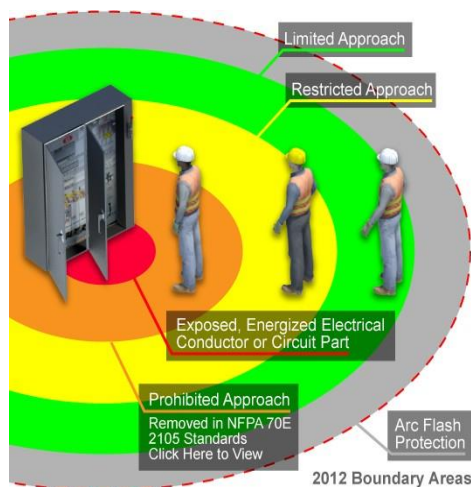

Figure 4.1 – Boundaries
6.1 General - For troubleshooting and testing purposes only, qualified persons using proper test equipment and personal protective equipment must adhere to the boundaries shown in figure 4.1 and specified in table 4.1. For adjusting, tightening, calibrating or any other work, the circuits must be de- energized, or employees must use voltage-rated gloves and voltage-rated insulated tools.